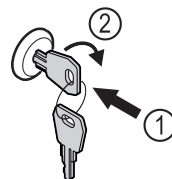

Fig. 206
- Insert the key. Fig. 206 (1)
- Turn the key clockwise by 90°. Fig. 206 (2)